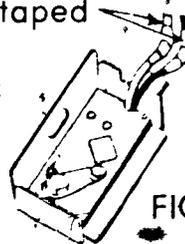

FIGURE 9
- g Wrap solder and splices carefully with tape (Figure 9)